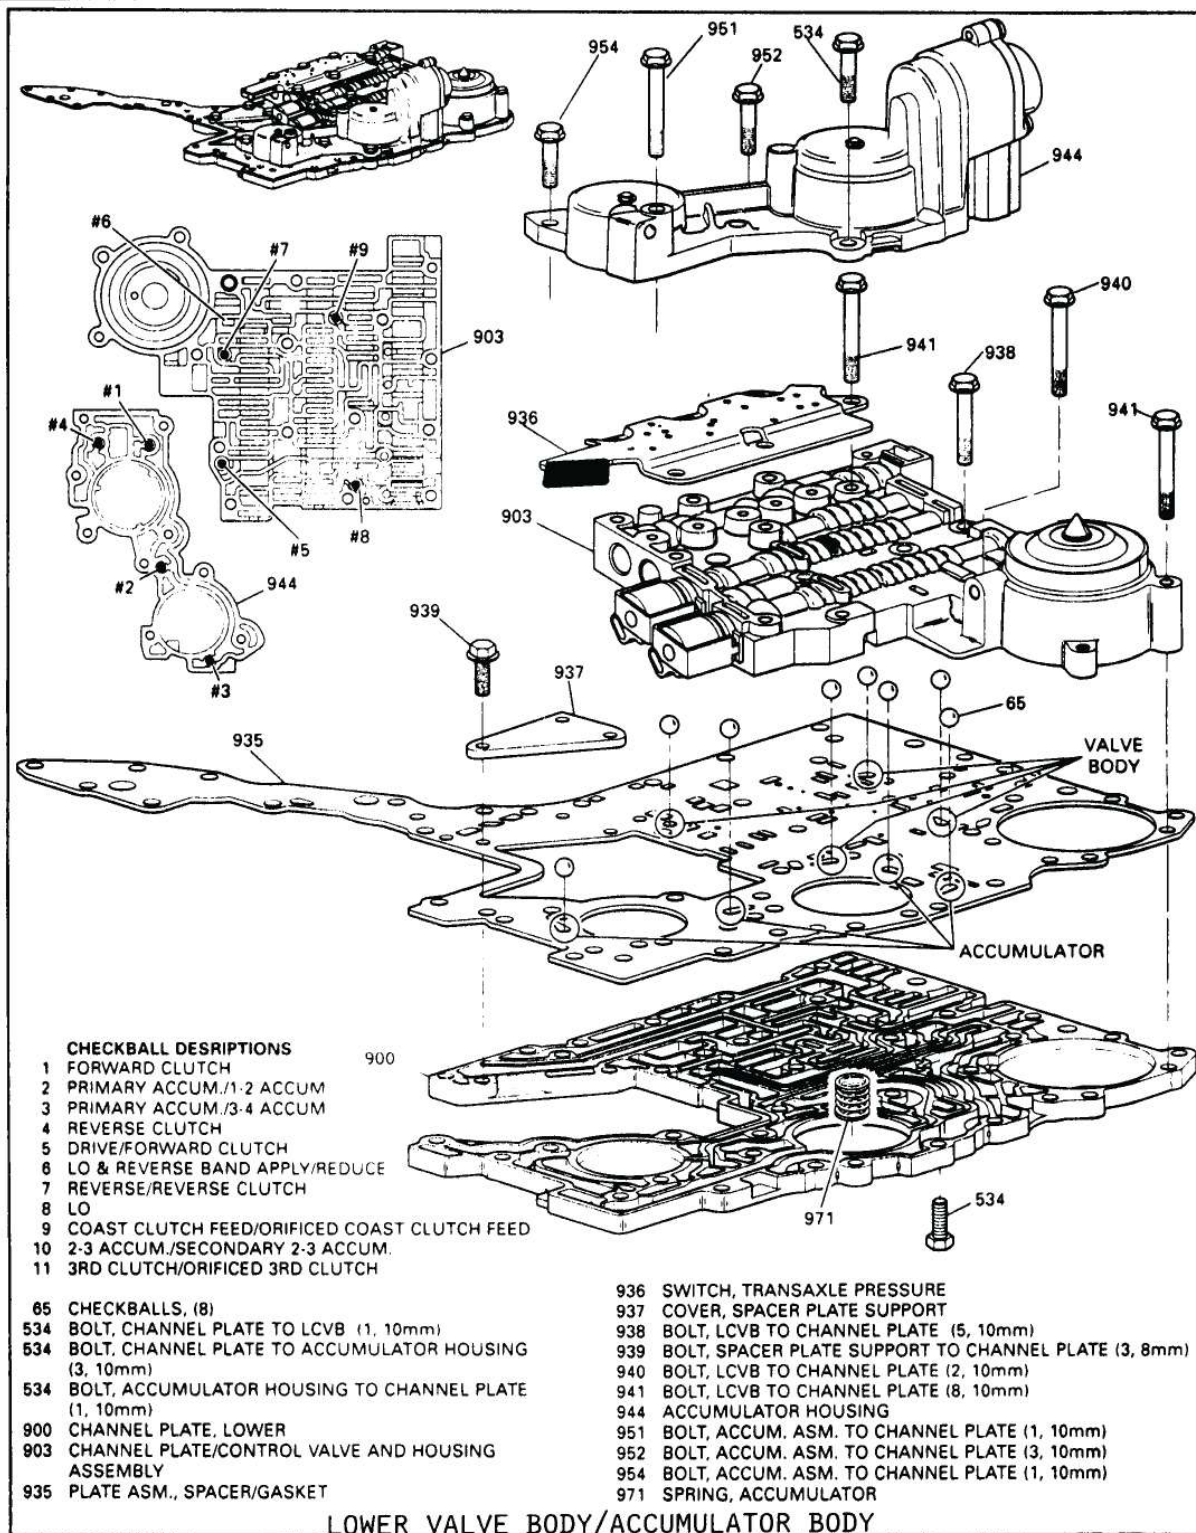

FIGURE 79
4. Use Figures 79 and 80 to disassemble the accumulators.
5. Inspect and clean all components in Figures 79 and 80.
6. Inspect the spacer plate/gaskets(935) as shown in Figure 79.
NOTE: An alternative way is to place them on the spacer plate in locations shown in Figure 79 on Page 63.
7. Install tension plate and the three retaining bolts (See Figure 79).
9. Install transaxle pressure switch onto lower valve body and install bolts. (See Figure 79).
10. Install remaining valve body bolts, including bolt (534) on channel plate side (See Figures 79 & 84).
NOTE: An alternative method is to place checkballs on spacer plate in locations shown in Figure 79.
14. Install spring (971) onto the channel plate with washer side down, as shown in Figure 79.
15. Install the pre-assembled accumulator housing assembly to lower channel plate and hand tighten (See Figure 79).
16. Remove guide pins and install remaining bolts, including three bolts on channel plate side (See Figure 79).